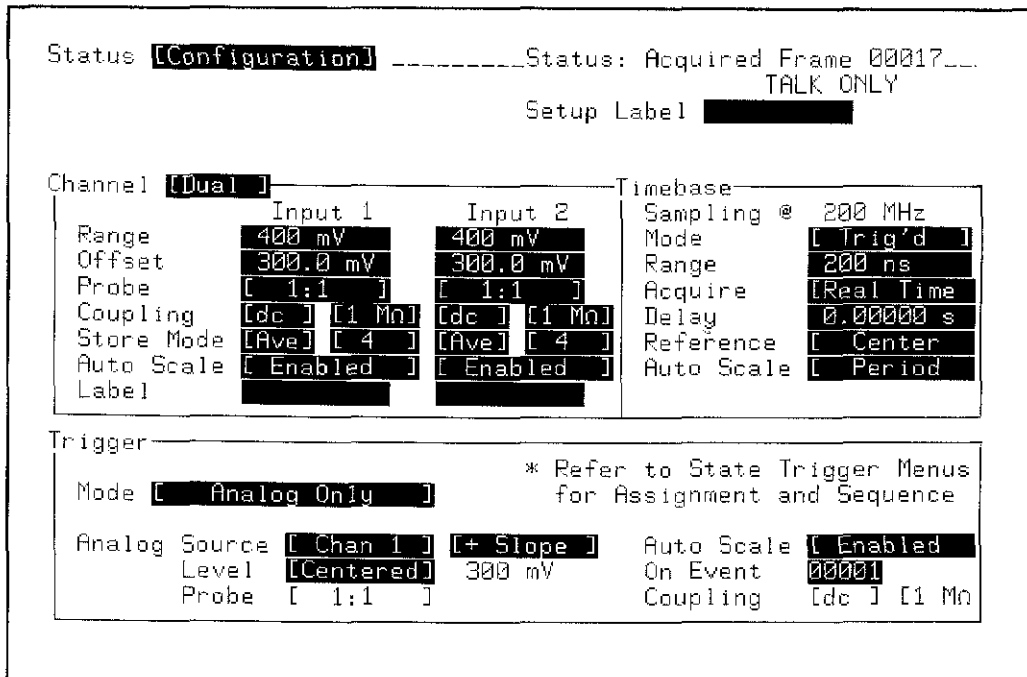

Figure 3-10. STATUS Configuration Menu
1. Configure STATUS Configuration menu as shown in figure 3-10.